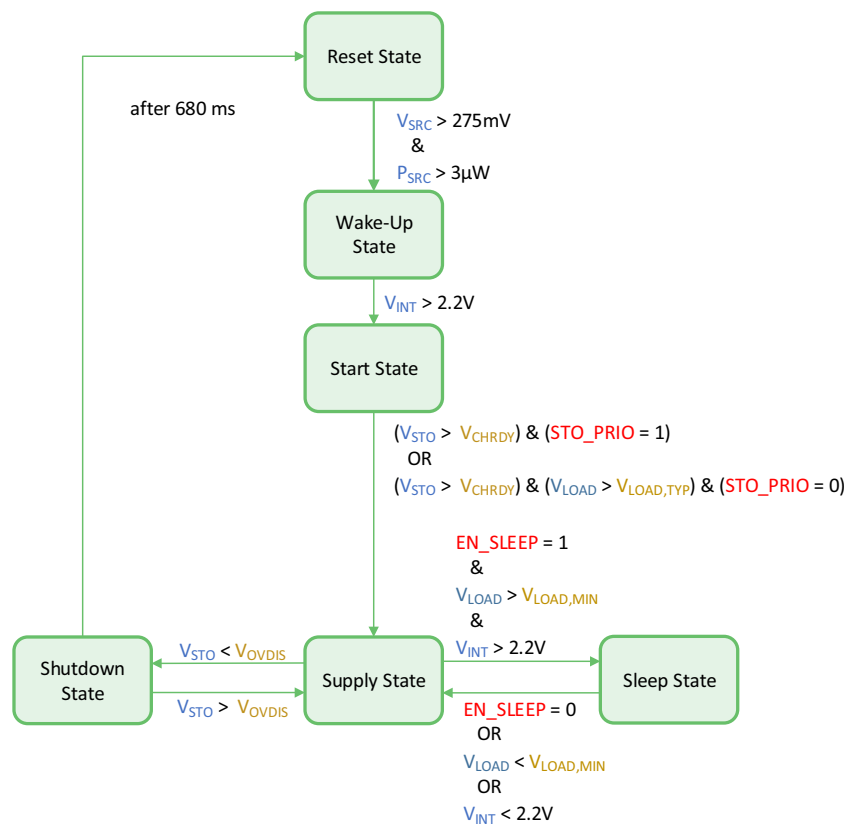

Figure 5: Diagram of the AEM10330 States
- If **EN_SLEEP** is asserted and conditions (shown on Figure 5) on V_{LOAD} and V_{INT} are satisfied, the AEM enters **SLEEP STATE** (see section 7.5).